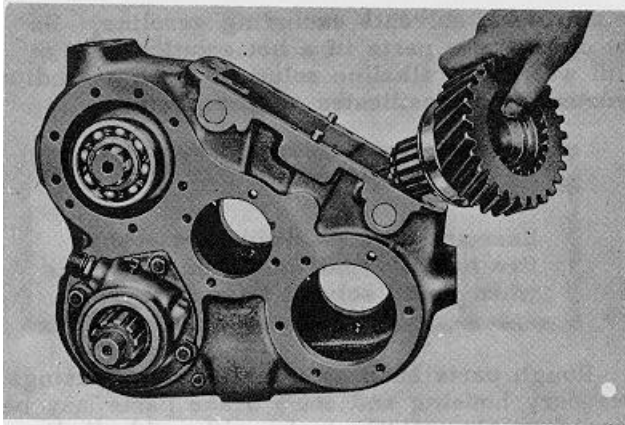

Fig. 15.
23. Take off bearing snap ring and tap gear into case; reach through cover opening and lift out gear and bearing (Fig. 15).